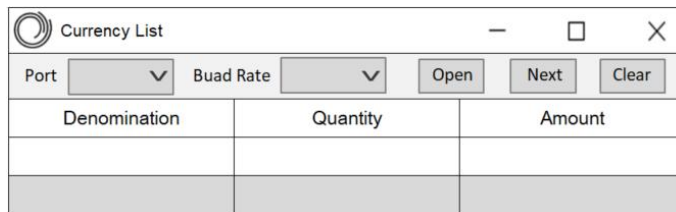

Figure 81
1) Open the upper computer software provided by our company “ UpperMonitor”, as shown in Figure 81 below.